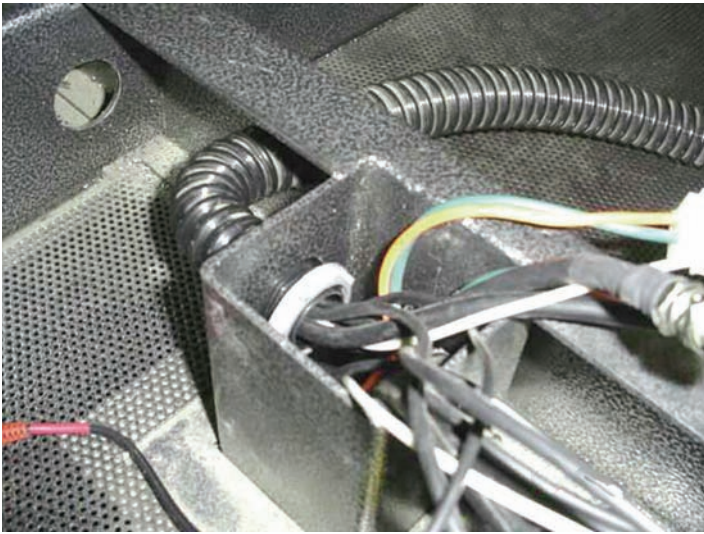

Figure 36
12. Secure and tighten the lock nut on the black flex as shown (Figure 36).